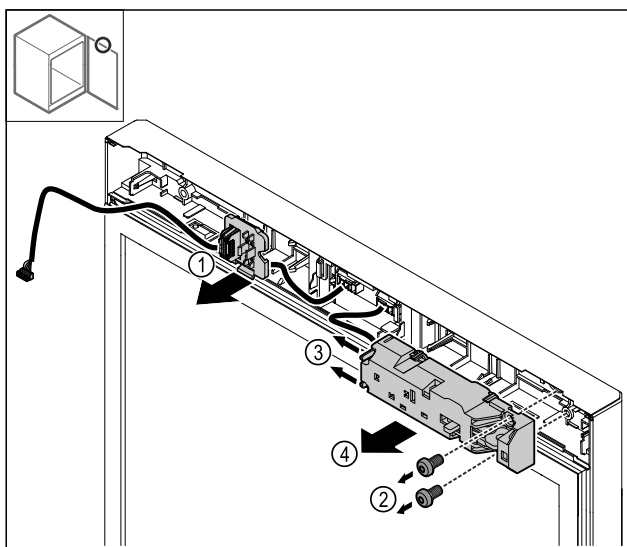

Fig. 28
- Unlatch the plug holder Fig. 28 (1).
- Remove the Fig. 28 (2) screws.
- Push the latching tabs Fig. 28 (3) to the side and remove the electrical lock Fig. 28 (4).